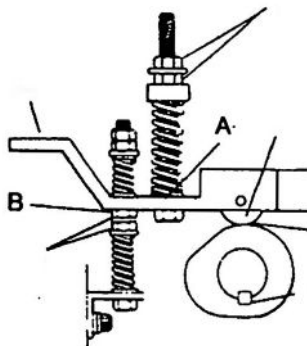

FIGURE 25. ADJUSTING TENSION LEVERTENSION ROLLERS
1. Manually turn the rotor of the electromagnetic clutch until the key, seen at the end of the cam shaft, is positioned as shown in Figure 25.